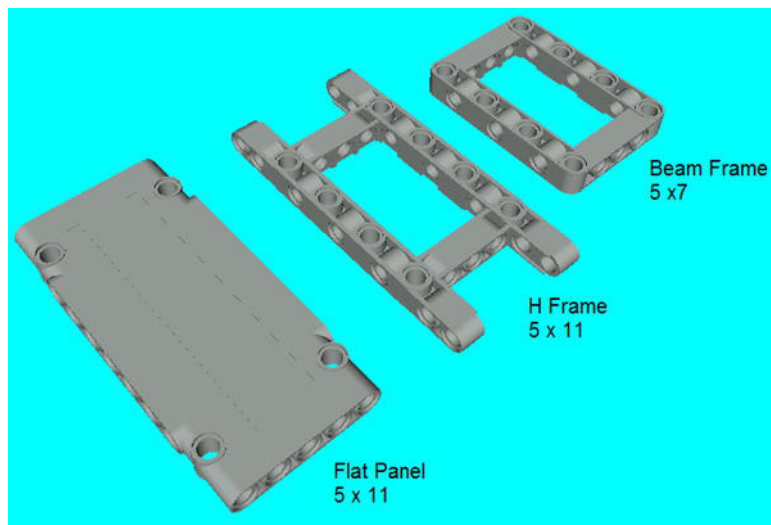

Figure 1-12. Examples of panels and beam frames in LEGO Technic
- **Panel:** Like the examples in Figure 1-12, plus more.
- **Panel, Decorated:** Also like the pieces in Figure 1-12, but these often have stickers or some type of graphics on them.